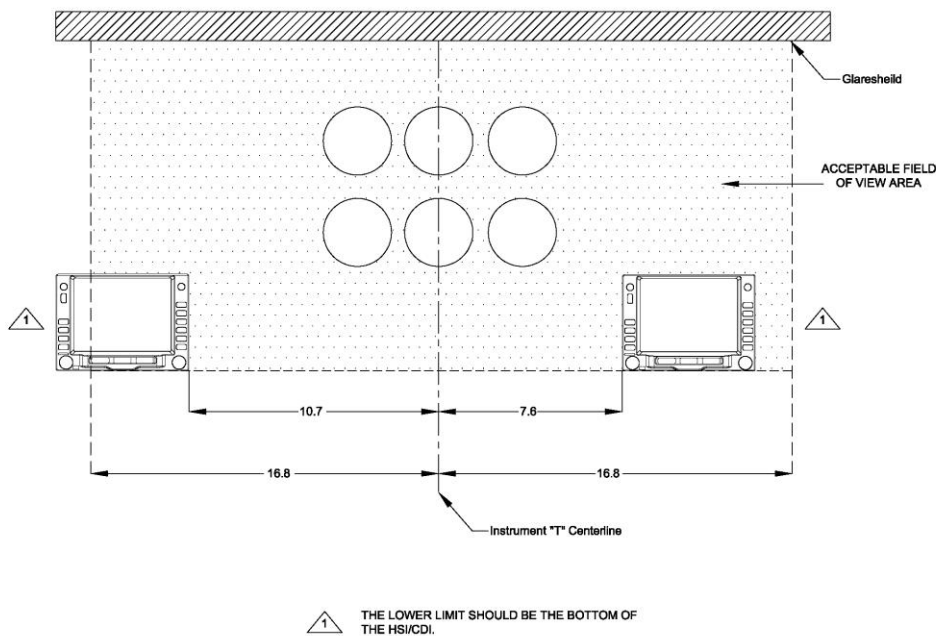

Figure 10 Navigation and TAWS(if enabled) Annunciation Field of View
Figure 9 and Figure 10 for the IFD5XX also apply to the IFD4XX.
- Install external annunciation lights in the acceptable field of view, as shown in Figure 10.